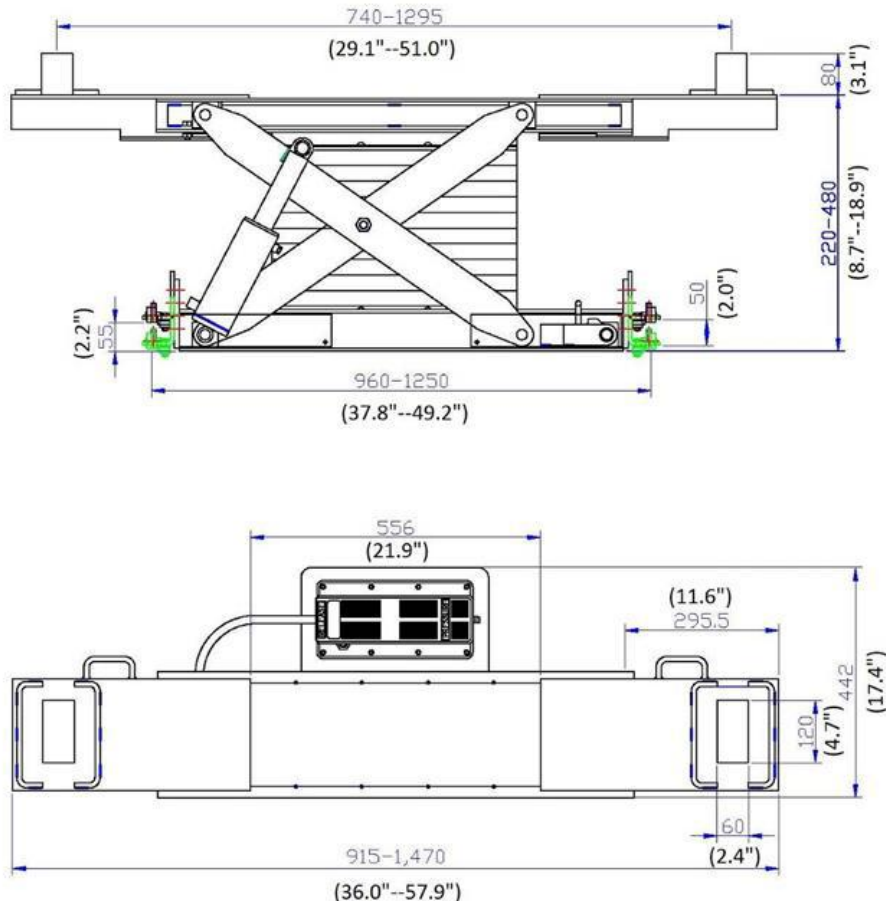

Fig. 1
- B. The roller body assembly wheels are adjustable for an inside runway width of 37.8" (960 mm) minimum to a 49.2" (1250 mm) maximum. (Fig.1)
- C. The RAJ-7K Rolling Jacks are equipped with (1) pair of rubber contact pad adaptors that can be positioned at 2.75" to 4.75" for different pad heights.
- E. The RAJ-7K Rolling Jacks are maneuvered on four (4) heavy duty rolling bearing wheels. Actual vehicle load is transferred to the jack's roller body assembly's spring bars, which engages the runways jack rails to secure jack from moving, while under load.